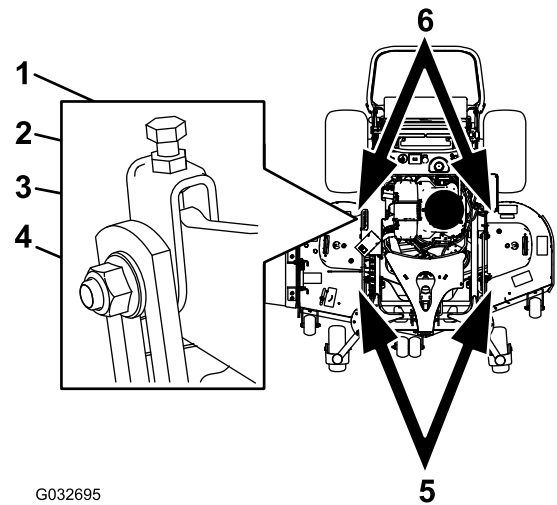

Figure 91
1. Loosen the jam nut and side bolt in the yokes that you want to adjust (Figure 91).
2. Rotate the top bolt of the yokes to adjust the height of the mower deck (Figure 91).
5. If the measurement is not correct, locate the front 2 yokes on the machine (Figure 91).